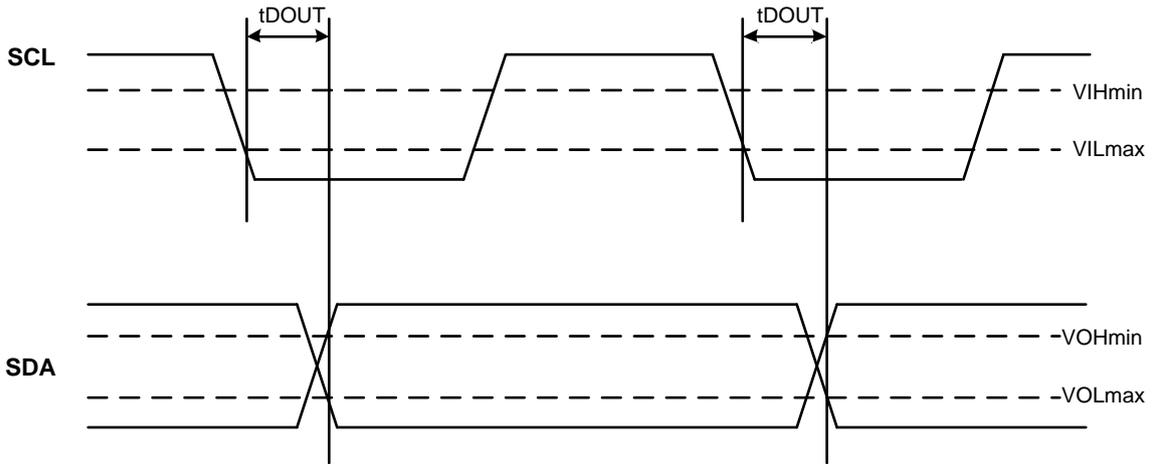

Figure 3 I3C Basic Bus AC Data Output Timing Parameter Definition
- See Figure 3 I3C Basic Bus AC Data Output Timing Parameter Definition